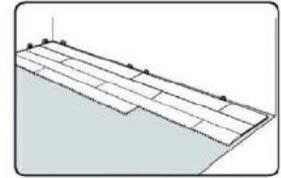

Figure 5
5. To install the remaining planks, first align the long edge tongue into the groove of the previous row while making sure the short edge tongue is laying on the short-edge groove of the previous plank (Figure 5)